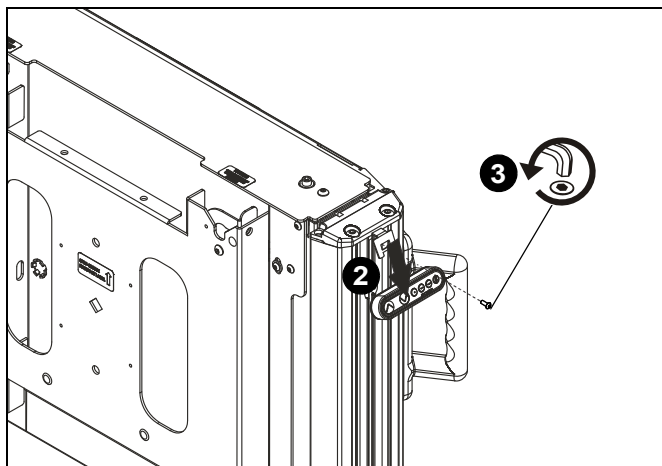

Figure 2
2. (XPD1U/XFD1U ONLY) Remove control pad from control pad bracket. (See Figure 2)
3. (XPD1U/XFD1U ONLY) Remove control pad bracket from side channel by removing screw holding it to mount using 5/64" hex key (N). (See Figure 2)